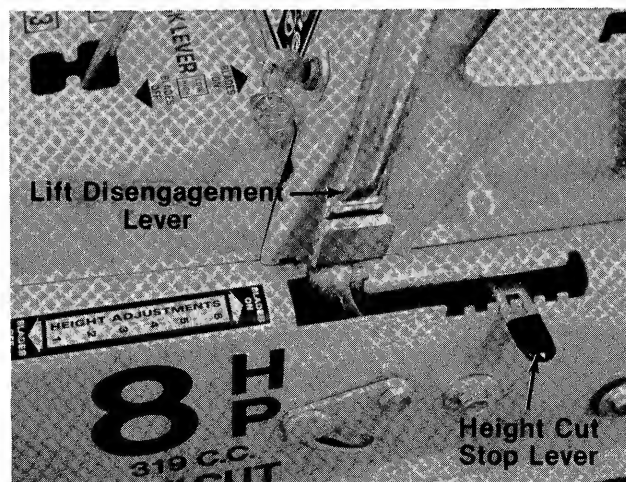
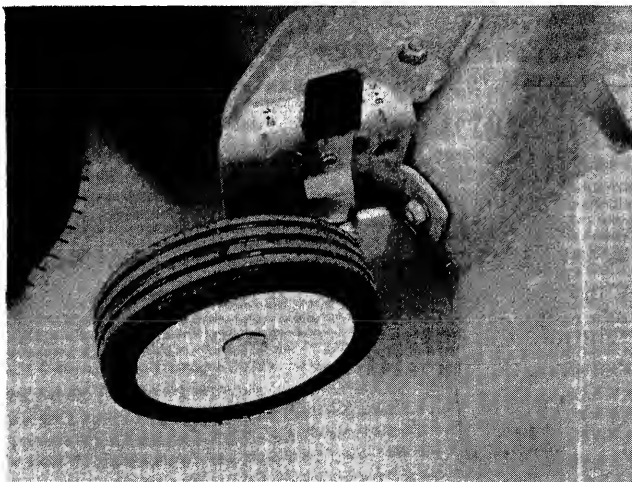

FIGURE 23.
FIGURE 24.
The engine will not start unless the lift and disengagement lever is in the disengaged position. See figure 23.
Height of Cut Stop. See figure 23. Lift the stop and set it at the desired cutting height. Allow the lift and disengagement lever to come forward to rest against the height of cut stop.
Wheel Height Adjuster. Move the lever towards the wheel and set it in the desired cutting height position. See figure 24. Both wheels must be in the same relative position.
Set the wheel height adjusters in the desired cutting height as indicated in figure 24. Set height of cut stop in the lowest position. See figure 23.
5. Move the lift and disengagement lever backward to the disengaged position and lock it. See figure 23.